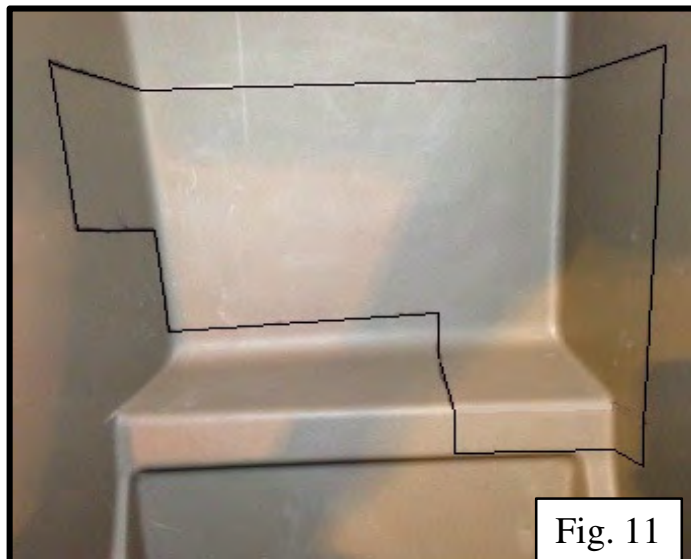

Fig. 11
13. Trace templates onto panels wherever template instructs "Cut Out Interior Panel Along This Black Line" or "Cut Out Interior Panel Along This Shape." Remove the templates once tracing is complete (Fig.11).